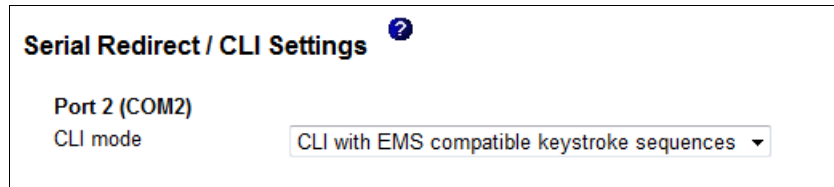

Figure 9-90 Serial Redirect/CLI Settings
3. Change the CLI mode to **CLI with EMS compatible keystroke sequences** (Figure 9-90).